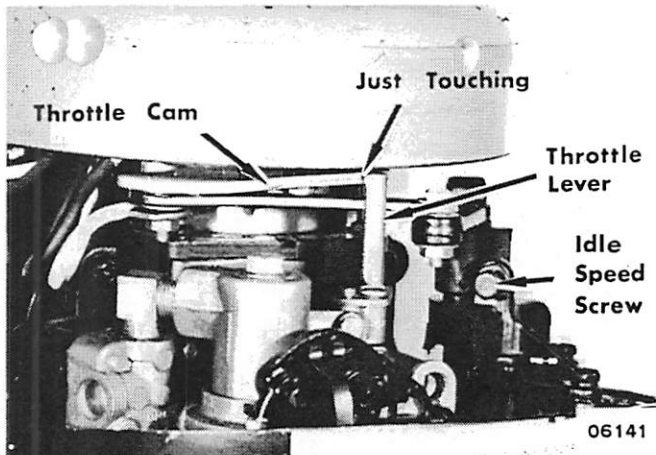

Figure 4. Throttle Pickup Adjustment - Merc 40
10. Close throttle with twist grip until meter indicates point just opens. Adjust throttle cam to just touch lever. (Figure 4)